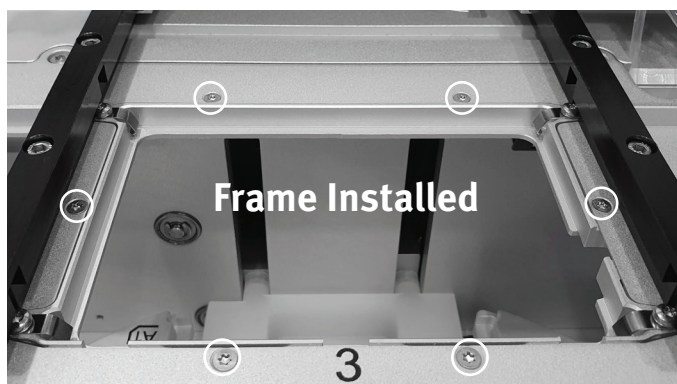

Figure 55. With the plate/rack frame in place, it is possible to load an extraction plate/rack into position 3 and run any method except for DFE.
2. Remove the plate/rack frame in position 3 using a T10 Torx screwdriver. Hold the frame in position while unscrewing the six screws (see Figure 55).
2. Install the plate/rack frame in position 3 using the six screws and a Torx 10 screwdriver; see Figure 55.
5. In the **Confirm Plate/Rack Frame** dialog, press **OK** to confirm that the plate/rack frame is in place (see Figure 55).